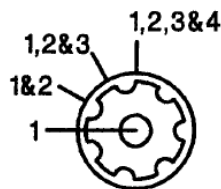

Figure 2-2. Transducer Selection Switch.
- (1) Select the number of system transducers using the display panel rotary switch (Figure 2-2).
NOTE: Before power up, select the number of system transducers using the display panel rotary switch (Figure 2-2). Selection changes after power-up will be ignored unless the reset button is pressed. The FSk-40 is pre-calibrated for immediate use in Shim Mode. Calibration (SECTION IV) should be performed before using Run Mode.